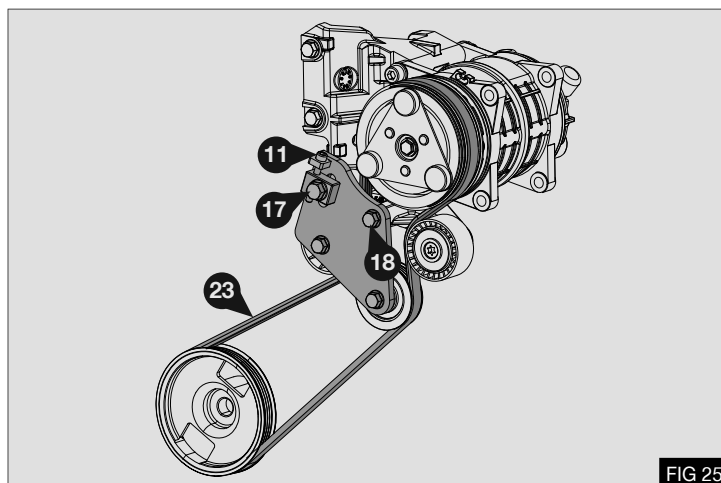

FIG 25
8. Check belt is seated correctly in all pulleys, tension belt using adjuster draw bolt (11) once correct tension is achieved (see table) check belt is correctly positioned and tighten bolts (17), (18) - Fig 25